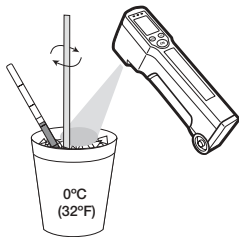

Figure 10
3. Continue stirring the water with a straw or swizzle stick while taking simultaneous temperature measurements with the reference probe and the IR thermometer. The unit should be held within 3 inches of the surface of the water (**Figure 10**). To insure measurement accuracy the probe tip must be immersed to a minimum depth of 12mm (1/2”).